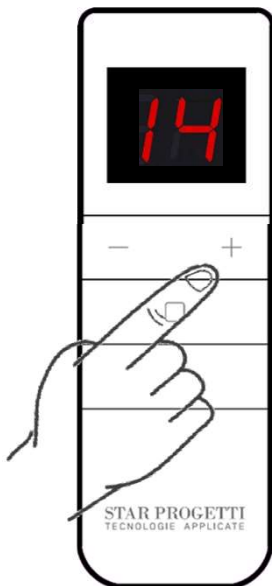
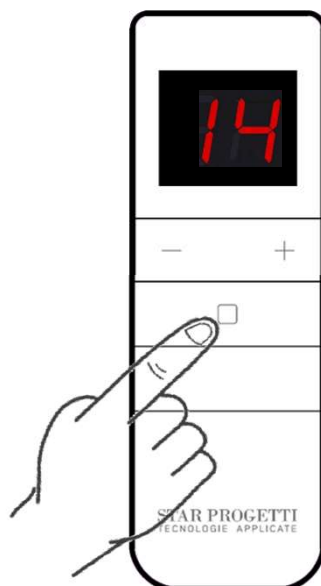

Fig.14
Fig.15
- Using the "+" and "-" buttons select channel 14 Fig.14 and immediately after press the button as shown in Fig. 15